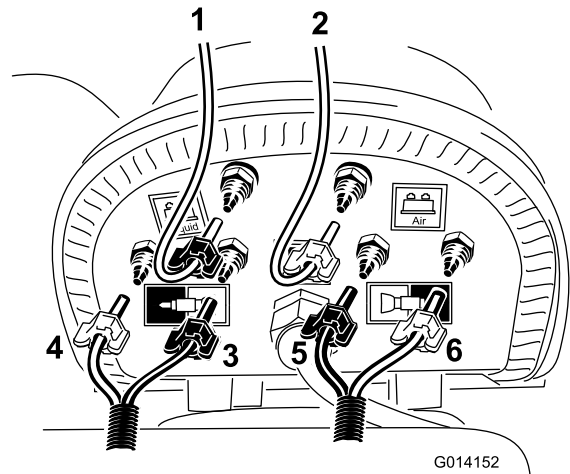

Figure 17
Note: Install the clear tube to the **blue** or water barb on the compressor shown in Figure 17. Use a blue tube clamp to secure both tubes. The sheath of the tubing will require further splitting to accommodate the length of the tank assembly.
3. Locate the short, loop-back hose previously cut, and install the clear tube to the remaining barb on the tank cap shown in Figure 17.
5. Locate the foam hose routed to the left boom, and install the blue and white tube to the locations as shown in Figure 17.
6. Locate the foam hose routed to the right boom, and install the blue and white tube to the locations as shown in Figure 17.